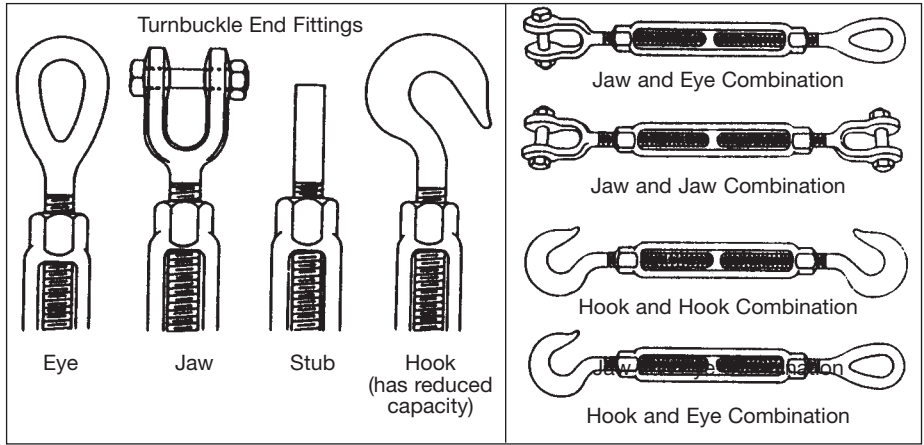

Figure 23
- Can be supplied with eye end fittings, hook end fittings, jaw end fittings, stub end fittings, and any combination of these (Figure 23).